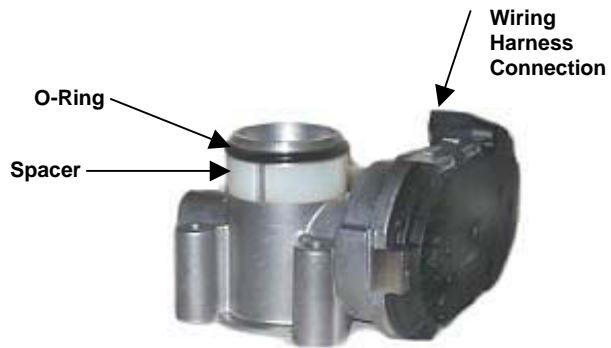
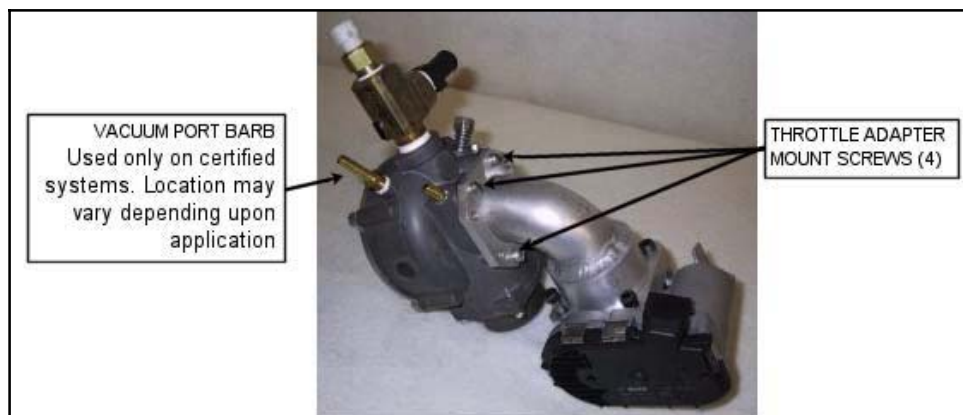

Figure 28. O-Ring and Spacer Within Mixer Adapter Assembly
Figure 29. Throttle Adapter Mount Screws & Vacuum Port Barbs
Refer to **Figure 28**.
4. Remove the air cleaner hose (1).
5. Mark the two vacuum lines (2) to the mixer for identification, as they must be reinstalled correctly for proper operation. Remove the two vacuum lines.
6. Remove vapor fuel inlet line (3) from the fuel temperature sensor fitting (4).
7. Disconnect the fuel temperature sensor connector (5).
8. Disconnect the wires leading to the electronic throttle body by pinching the lock tabs on either side of the wiring harness connector. (See **Figure 28** for location of connector.)
9. Loosen the four bolts (6) that secure the mixer/adapter/throttle body assembly to the intake manifold.
10. Remove the mixer (9), the adapter (7), and the throttle body (8) as an assembly by gently pulling upwards. Take care not to drop anything down the intake manifold.
13. Remove the fuel temperature sensor (not shown) from the tee (4).
15. Remove the short vacuum port barb from the mixer. (See **Figure 29** for location of port barb on mixer.)
4. Install the four mounting screws that attach the throttle adapter **(7)** to the mixer. See **Figure 29**.
(See **Figure 28**.)
7. Connect the wiring harness to the throttle body. (See **Figure 28** for location of connector.) Connect the fuel temperature sensor connector **(5)** to the sensor.